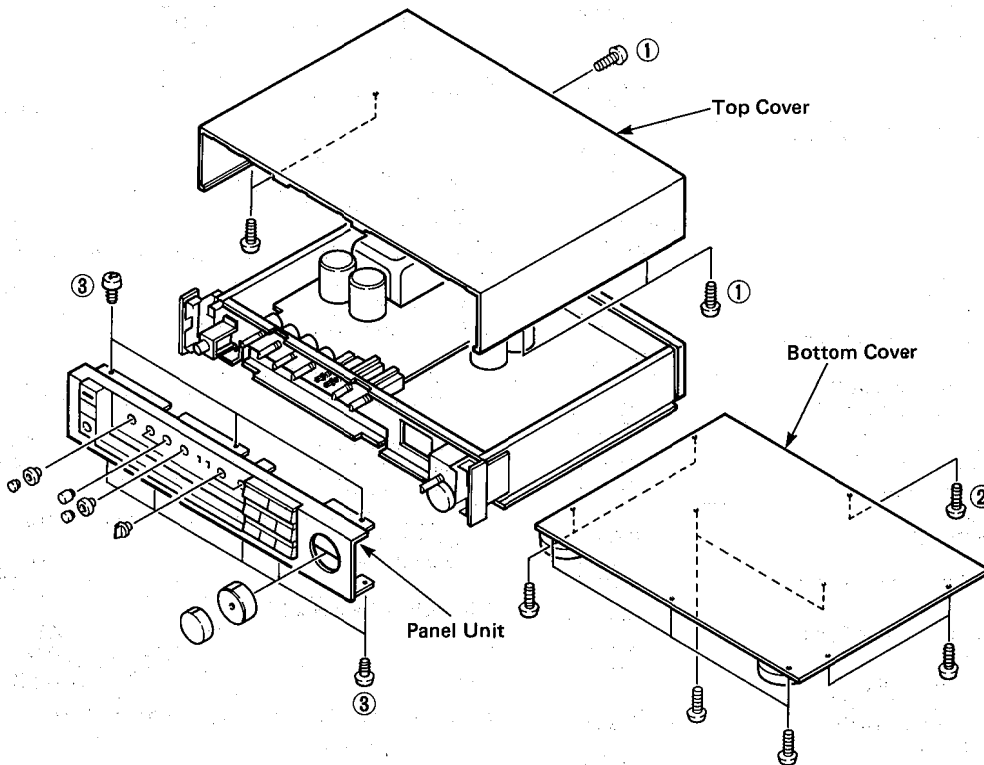

Fig. 1
- a. Remove 5 screws ( ① ) in Fig. 1.
- a. Remove 8 screws ( ② ) in Fig. 1.
- b. Remove 8 screws ( ③ ) in Fig. 1.